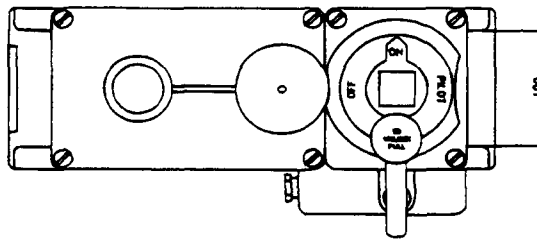

Figure 1
- B. Remove grease drawer, raise pull button on safety valve handle and turn to OFF. Wait 5 minutes. Refer to Figure 1.